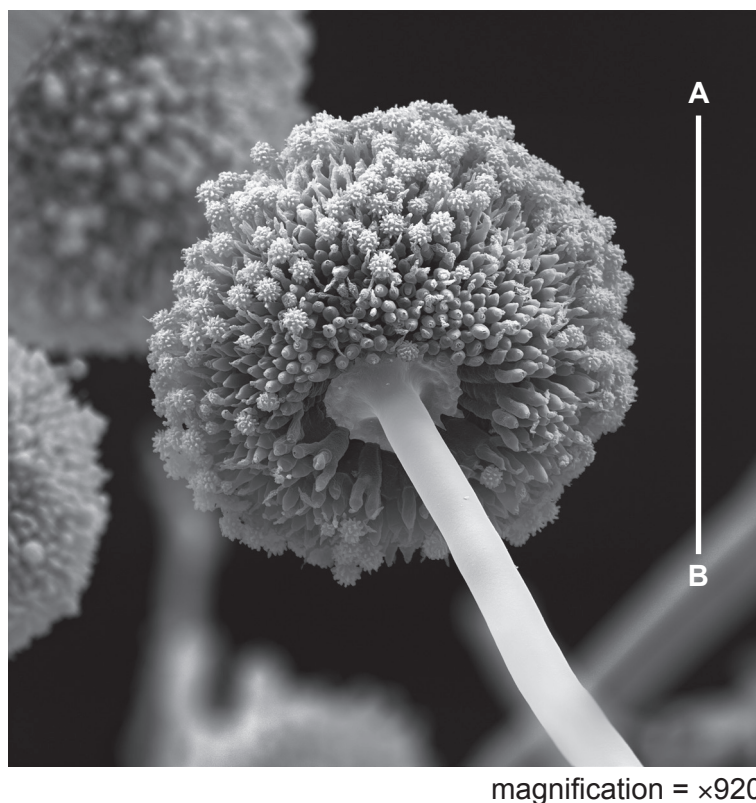

Fig. 1.2
Fig. 1.2 shows a photograph of the fruiting body of the fungus taken using a microscope.
- (i) Measure the length of line **AB** on Fig. 1.2.